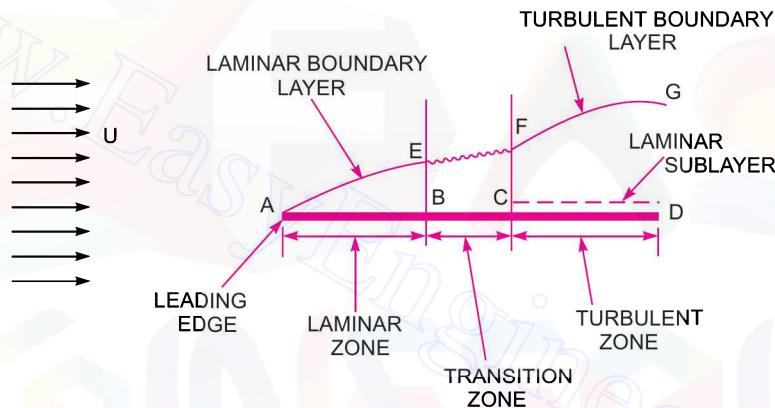

Fig. 13.2 Flow over a plate.
**13.2.1 Laminar Boundary Layer.** For defining the boundary layer (*i.e.*, laminar boundary layer or turbulent boundary layer) consider the flow of a fluid, having free-stream velocity ( $U$ ), over a smooth thin plate which is flat and placed parallel to the direction of free stream of fluid as shown in Fig. 13.2. Let us consider the flow with zero pressure gradient on one side of the plate, which is stationary.
The velocity of fluid on the surface of the plate should be equal to the velocity of the plate. But plate is stationary and hence velocity of fluid on the surface of the plate is zero. But at a distance away from the plate, the fluid is having certain velocity. Thus a velocity gradient is set up in the fluid near the surface of the plate. This velocity gradient develops shear resistance, which retards the fluid. Thus the fluid with a uniform free stream velocity ( $U$ ) is retarded in the vicinity of the solid surface of the plate and the boundary layer region begins at the sharp leading edge. At subsequent points downstream the leading edge, the boundary layer region increases because the retarded fluid is further retarded. This is also referred as the growth of boundary layer. Near the leading edge of the surface of the plate, where the thickness is small, the flow in the boundary layer is laminar though the main flow is turbulent. This layer of the fluid is said to be laminar boundary layer. This is shown by AE in Fig. 13.2. The length of the plate from the leading edge, upto which laminar boundary layer exists, is called laminar zone. This is shown by distance AB. The distance of B from leading edge is obtained from Reynold number equal to  $5 \times 10^5$  for a plate. Because upto this Reynold number the boundary layer is laminar. The Reynold number is given by  $(R_e)_x = \frac{U \times x}{v}$
**13.2.2 Turbulent Boundary Layer.** If the length of the plate is more than the distance  $x$ , calculated from equation (13.1), the thickness of boundary layer will go on increasing in the downstream direction. Then the laminar boundary layer becomes unstable and motion of fluid within it, is disturbed and irregular which leads to a transition from laminar to turbulent boundary layer. This short length over which the boundary layer flow changes from laminar to turbulent is called transition zone. This is shown by distance  $BC$  in Fig. 13.2. Further downstream the transition zone, the boundary layer is turbulent and continues to grow in thickness. This layer of boundary is called turbulent boundary layer, which is shown by the portion  $FG$  in Fig. 13.2.
**13.2.3 Laminar Sub-layer.** This is the region in the turbulent boundary layer zone, adjacent to the solid surface of the plate as shown in Fig. 13.2. In this zone, the velocity variation is influenced only by viscous effects. Though the velocity distribution would be a parabolic curve in the laminar sub-layer zone, but in view of the very small thickness we can reasonably assume that velocity variation is linear and so the velocity gradient can be considered constant. Therefore, the shear stress in the laminar sub-layer would be constant and equal to the boundary shear stress  $\tau_0$ . Thus the shear stress in the sub-layer is